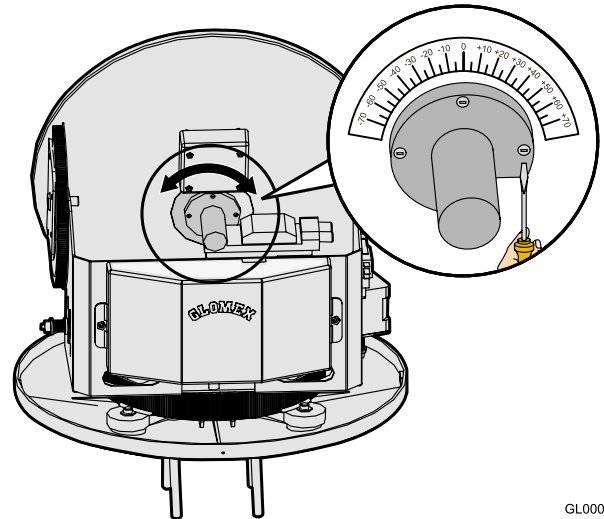

Fig. 17
- loosen the 4 screws fastening the LNB to the disk (see Fig. 17) and manually move the disk, searching for the parameter of signal quality of the digital receiver in use as a reference for correct calibration (please refer to the receiver's manual). Calibration does not need to be changed if the boat remains in the same area and receives transmission from the same satellite.